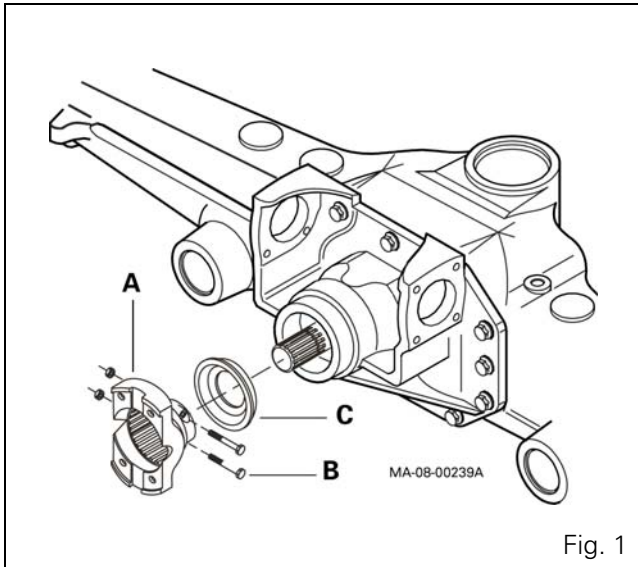

Fig. 1
- for suspended front axles: Fig. 1